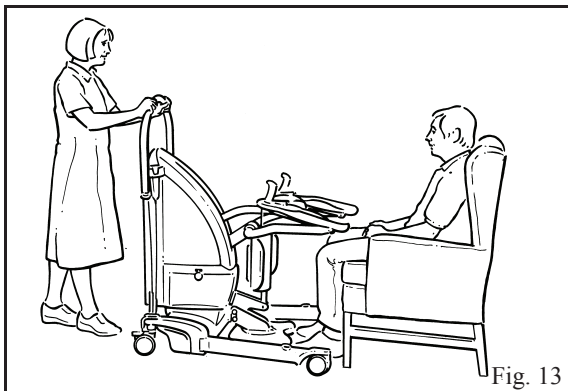

Fig. 13
3. Approach the patient from the front with the lift, stop before the foot support and Proactive Pad are in contact with the patient. (See Fig 13)